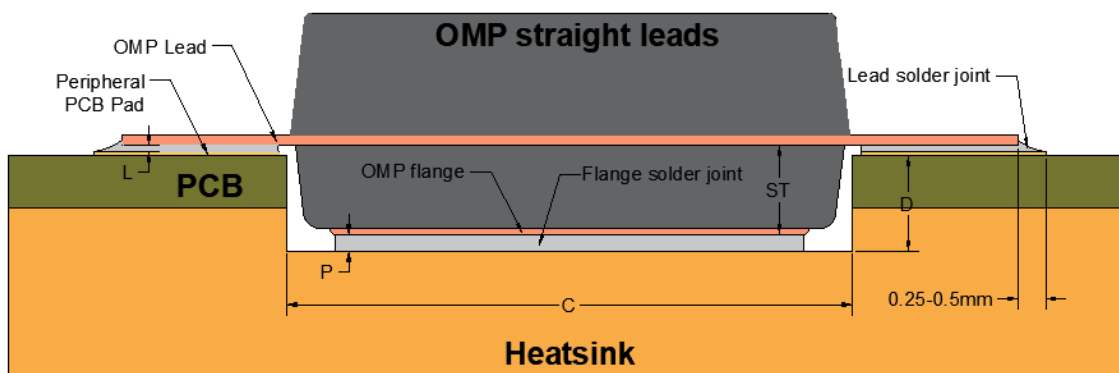

Figure 11. OMP straight leads package cross section view
Heatsink cavity depth (D, Figure 11) = Package Stand off (ST) + Preform thickness (P) – solder thickness under lead (L) - Gap lead to solder before reflow.